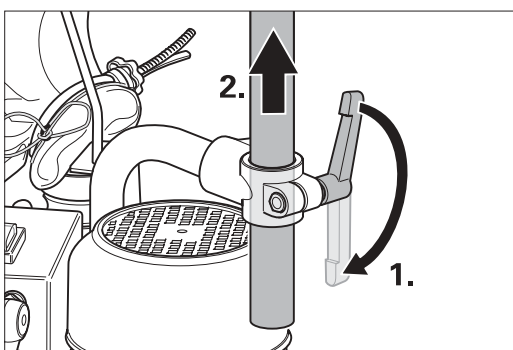

Fig. 16: Undoing the clamping lever at the pipe bend and removing the extension.
- 3 Undo the clamping lever at the front end of the pipe bend and pull the extension upward out of the bracket (Fig. 16). Put the extension aside.